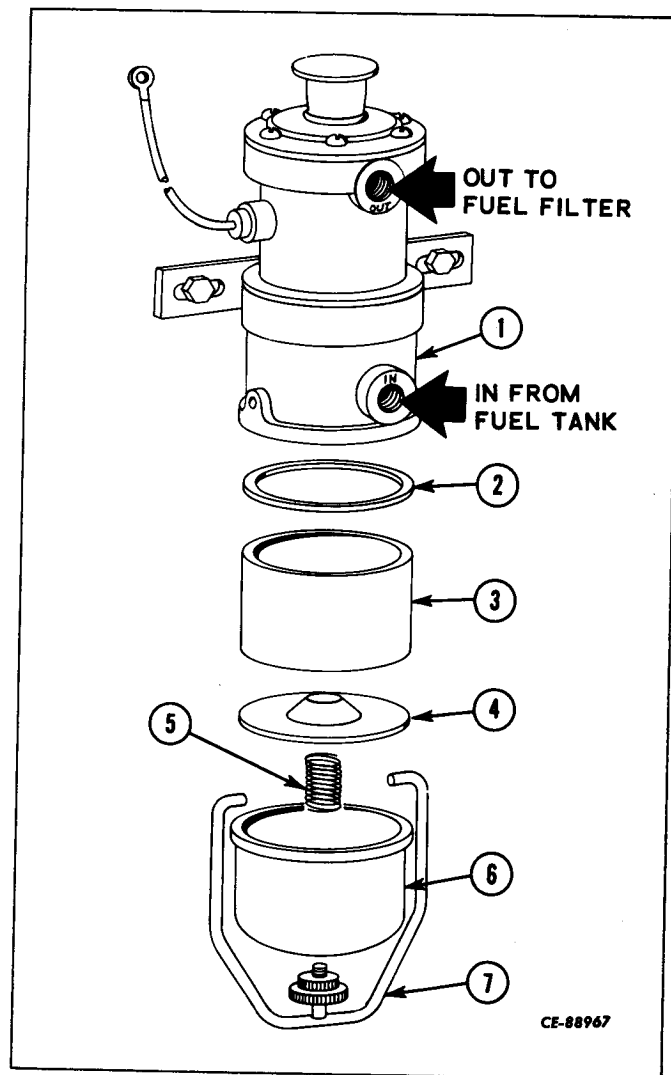

Figure 2-57
Loosen thumb nut mounted on the pump bail (7, Fig. 2-57) and remove the bowl (6), spring (5), base (4) and element (3) all at the same time. Discard the element (3).
Legend for Figure 2-57